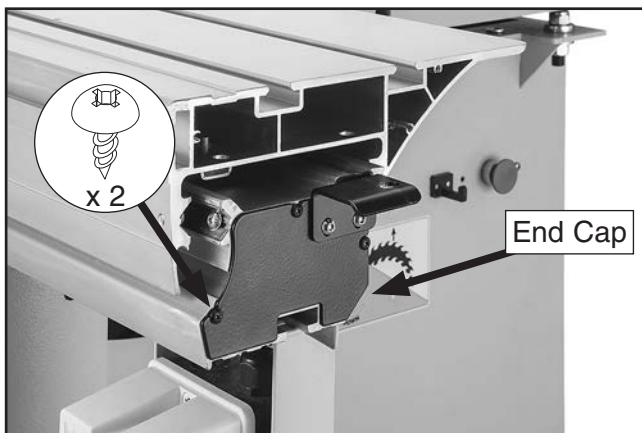

Figure 19. End cap attached to sliding table.
2. Attach end cap with (2) pre-installed M4 x 8 tap screws (see **Figure 19**).